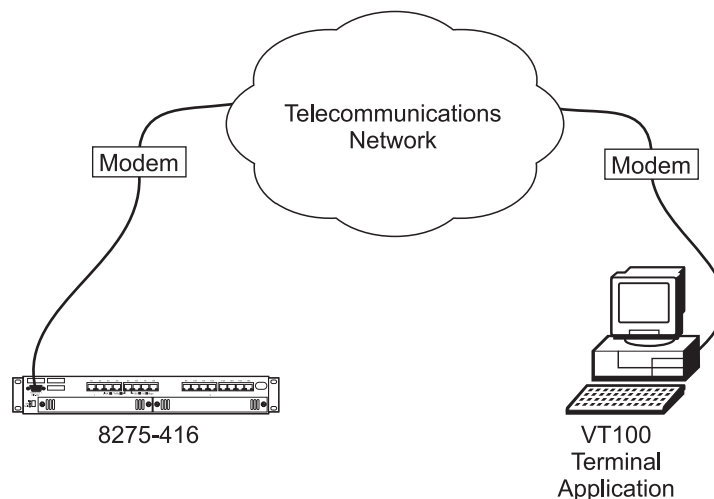

Figure 7. Out-of-Band Connectivity — Remotely Attached Terminal
2. Attach one of the serial cable (not provided) to the EIA 232 port of the 8275-416 and the other end to your modem as shown in Figure 7.